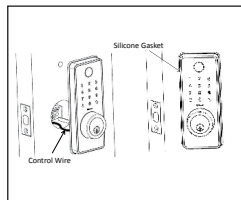

Figure 8a-b
- Check that the Rubber Gasket is properly seated on the Exterior Assembly (Figure 8a-b).